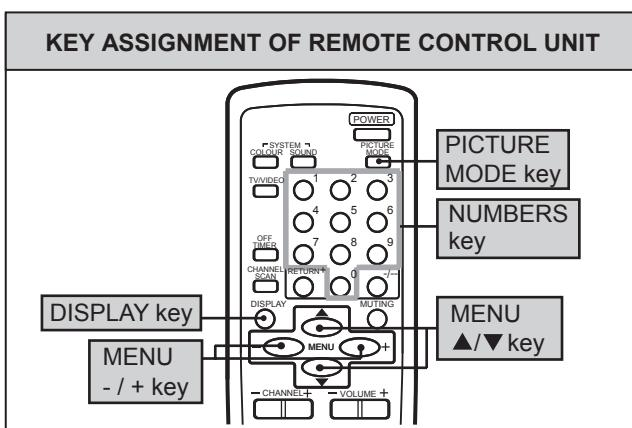

Fig.1
- (1) Press the [DISPLAY] key and the [PICTURE MODE] key of the REMOTE CONTROL UNIT simultaneously.
- (2) The SERVICE MENU screen of Fig. 1 will be displayed.
Verify what to set in the SERVICE MENU, and set whatever is necessary (Fig.1).